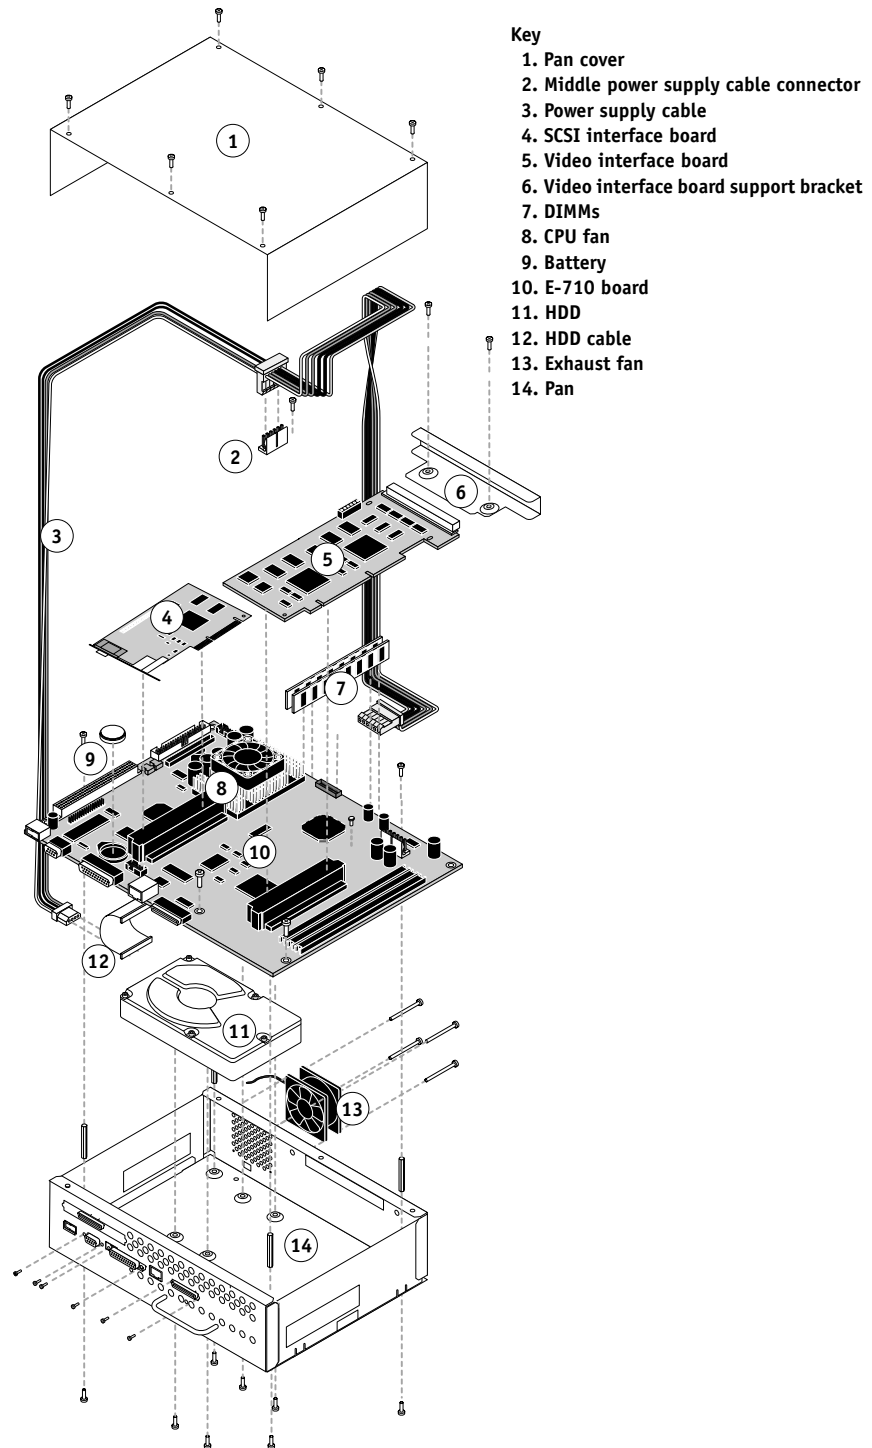

FIGURE 4-1 Exploded view of E-710
See Figure 4-1 on page 4-2 for an overview of E-710 board components. Replacement parts are available from your authorized service representative.
7. Remove the video interface board support bracket from the pan (see Figure 4-1 on page 4-2 for bracket location). Set the two screws and the support bracket aside so you can replace them later.